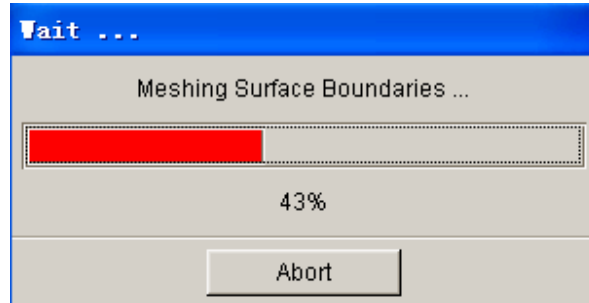
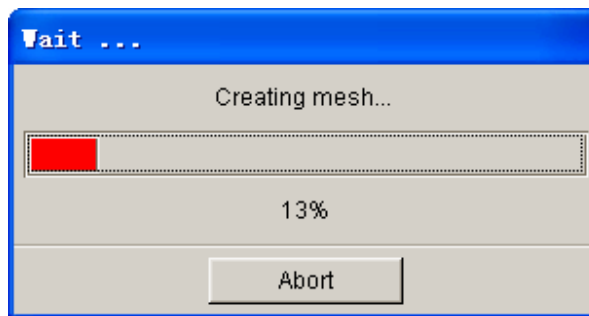

Figure 5.3.8 Meshing Surface Boundaries
Figure 5.3.9 Creating Mesh
- After the user selects or accepts the gap tolerance, eta/DYNAFORM begins to mesh surface boundary. See Figure 5.3.8. For mesh creation, see Figure 5.3.9.